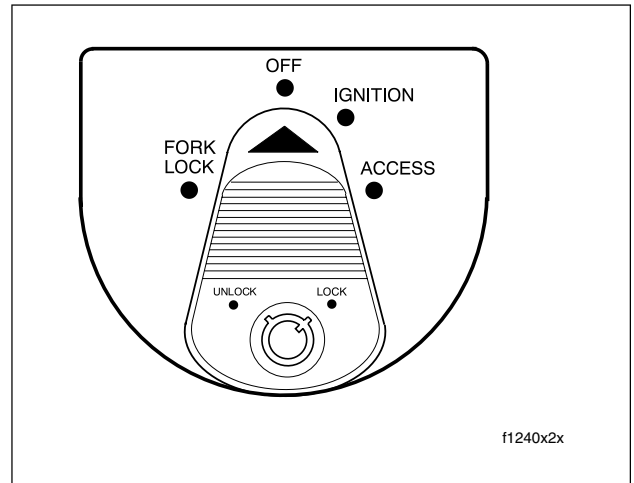

Figure 4-3. Ignition Switch (FLHT/C)
- See Figure 4-3. “Key ON” means that the ignition key is turned to ON and the engine stop switch is set to RUN (although the engine is **not** running).